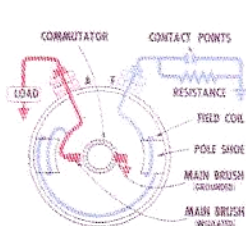
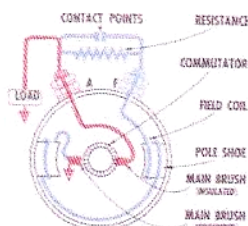

Figure 18—"A" circuit generator.
Figure 19—"B" circuit generator.
**"A" Circuit and "B" Circuit**—The generator circuits shown in Figures 12 through 17 can be classified as either "A" circuit or "B" circuit. An "A" circuit generator is shown in Figure 18. In this type circuit, the field winding is connected to the insulated brush inside the generator and is connected to ground through the contact points in the regulator. In the "B" circuit generator (Fig. 19), the field winding is grounded inside the generator, and is connected to the armature circuit inside the regulator.